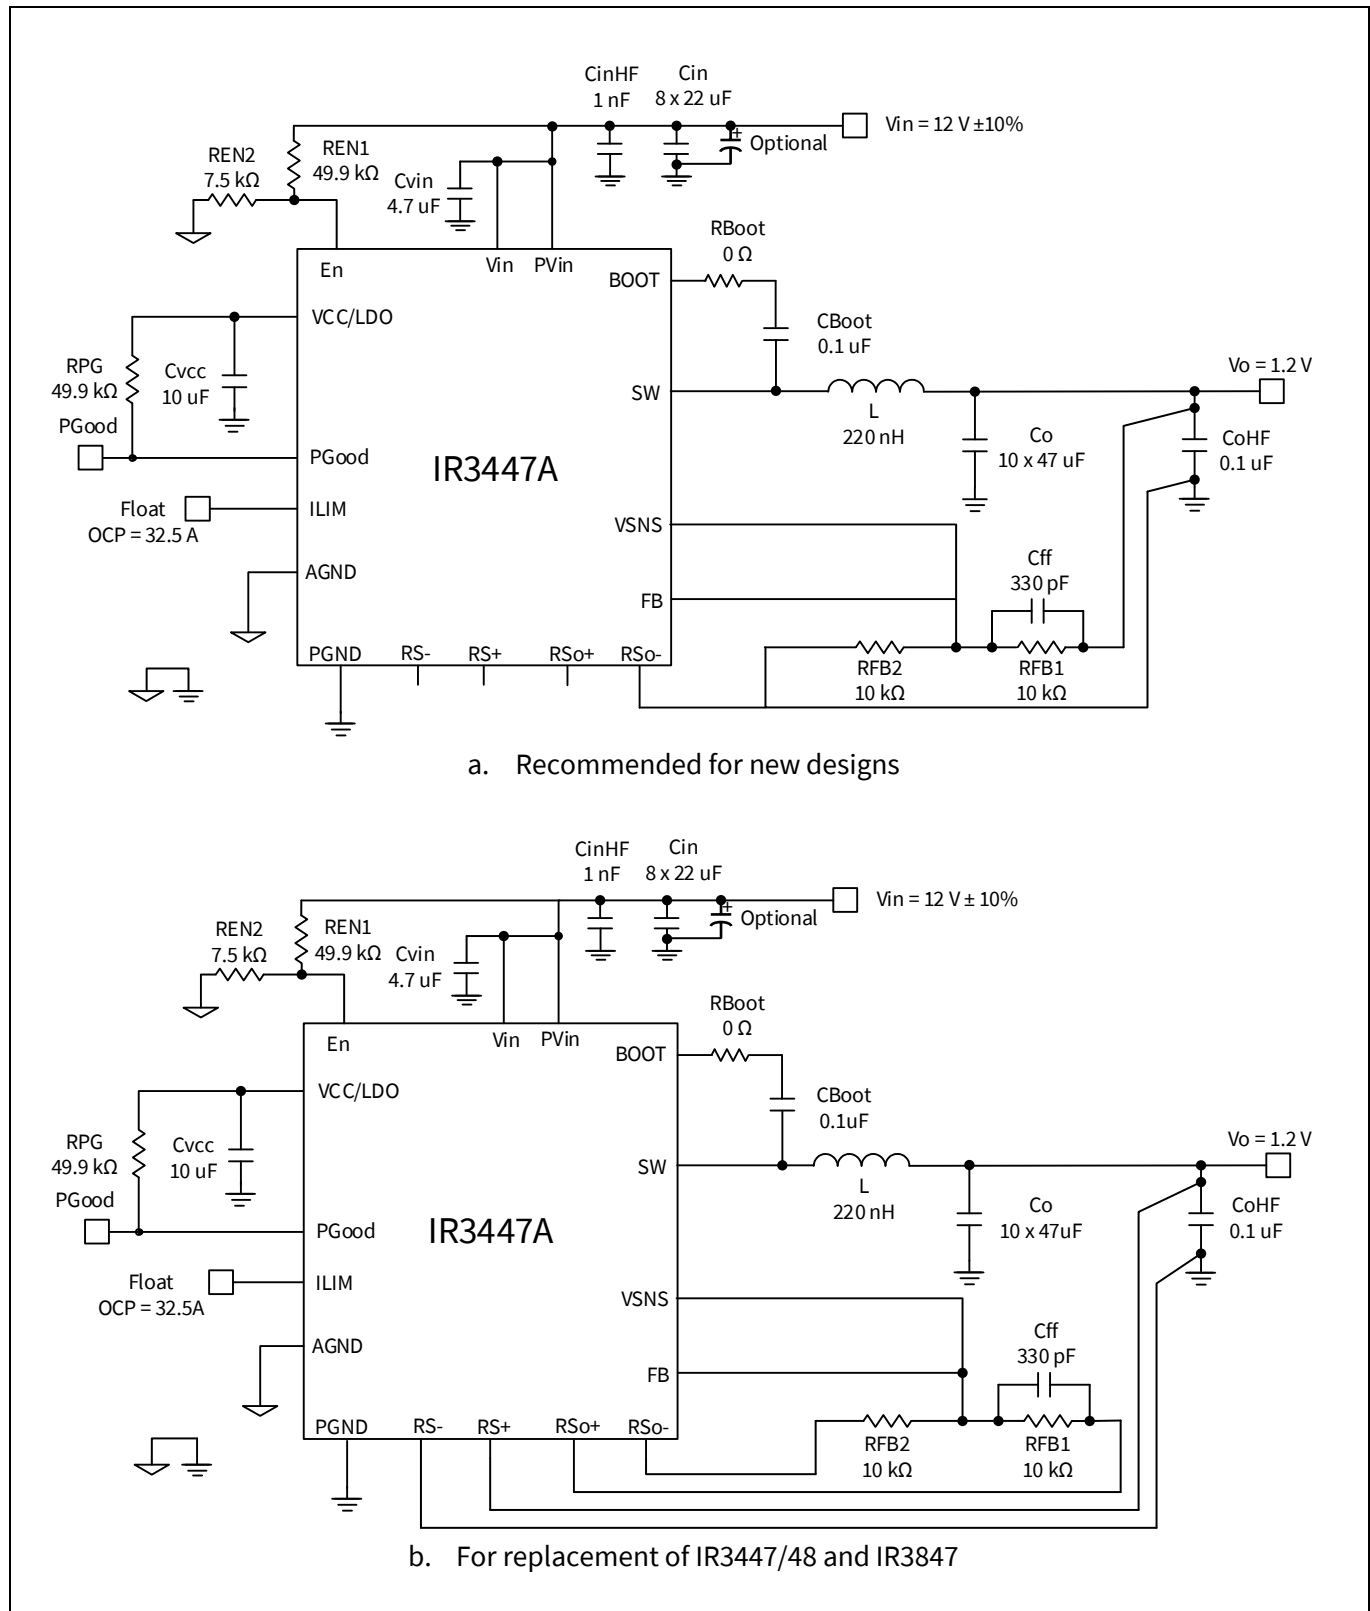

Figure 13 Application diagram of IR3447A. PVIN = 12 V, Vo = 1.2 V, Io = 25 A, fsw = 600 kHz.
In this section, an example is used to demonstrate how to design a buck regulator with the IR3447A. The application circuit is shown in **Figure 13**. The design specifications are given below:
- If it is required to sense the output voltage at a remote location, pseudo remote sensing can be implemented as follows, as illustrated in Figure 13.